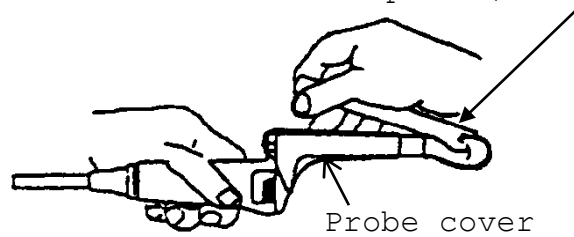

Fig. 6
- 2) Put the picks of the Sterile Puncture Adapter to the grooves on the tip of the probe. (See Fig. 6.)